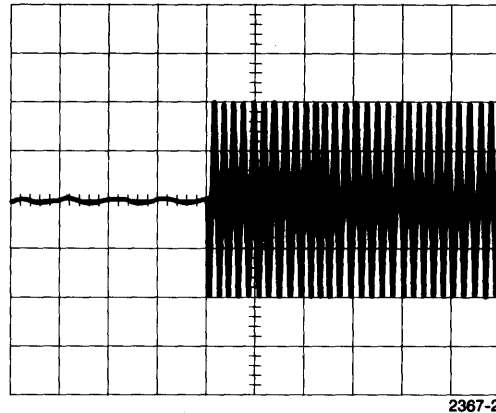

Figure 5-7. Sector to Data Delay Waveform.
- d. Observe the timing between the start of the sweep and the leading edge of data burst. This should be $200 + 50$ usec. (see Figure 5-7). If the timing is not within tolerance, continue on with step e. If it is within tolerance, then go to step i.